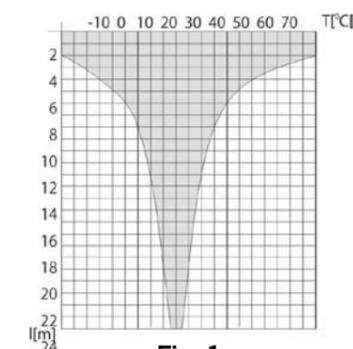
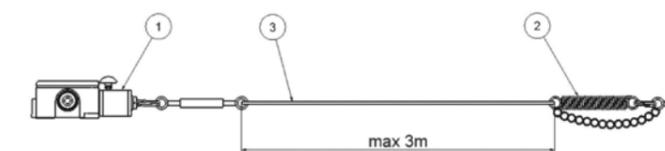

Fig. 1
Fig. 2 The LK-30 pull cord switch with a cord, without bushes.
The LK-30 and LK-40 pull cord switches enable stopping of the device they work with. They meet the requirements of PN-EN 60947-5-1. The minimum length of the cord is 2m, while the maximum length 25m. All other available lengths depend on ambient temperature (Fig. 1).
A complete pull cord switch is comprised of a switch with a turnbuckle and a thimble (1); a spring with a small chain, a thimble, and a ring (2); a cord with the diameter equal to a wire with covering 3 (3); and with bushes (4) – if the cord's length exceeds 3m. All of the afore-mentioned details are available separately. The cord that has the length corresponding to Fig. 1 must be installed according to the enclosed instructions. Assembly diagrams have been presented in Figs. 2 and 3.